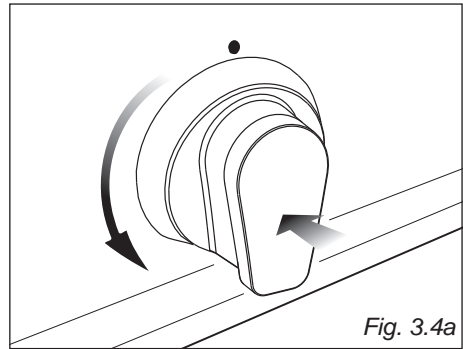

Fig. 3.4a
1. Push and turn the knob in an clockwise or anticlockwise direction up to the  position (maximum rate of inner crown) or  position (maximum rate of inner + outer crown), push in and hold the knob until the flame has been lit (fig. 3.4a or 3.4b).